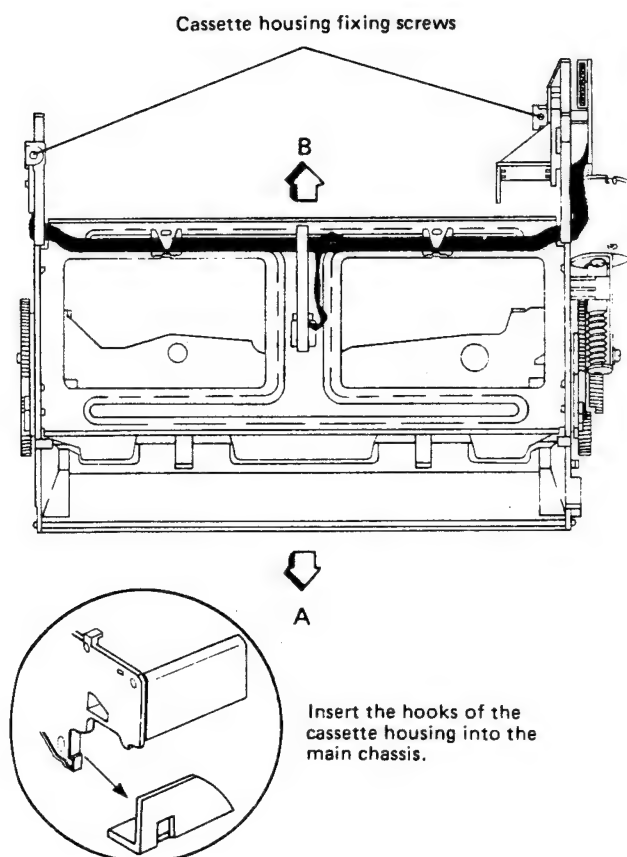

Figure 8.
4. Shift the cassette housing toward the arrow  $\Rightarrow$  B direction shown in Fig. 8 and take it out upwards.